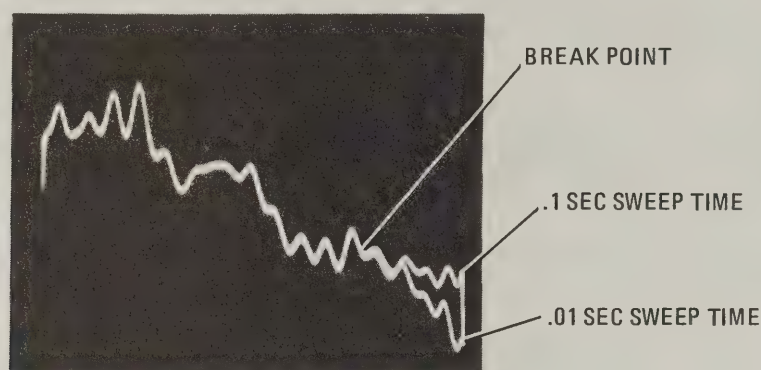

Figure 5-22. Fast Sweep Compensation Waveform
- w. Adjust A2 Comp Break Point control A2R55 clockwise to move compensation break point lower in frequency to point indicated in Figure 5-22.